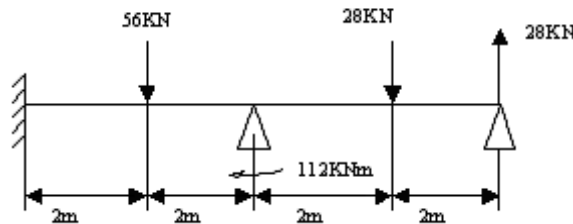

Figure 1:
3. Compute the support reaction at the other end of continuous beam shown in figure 1. use the concept of boundary element  $EI=400$  units. [16]